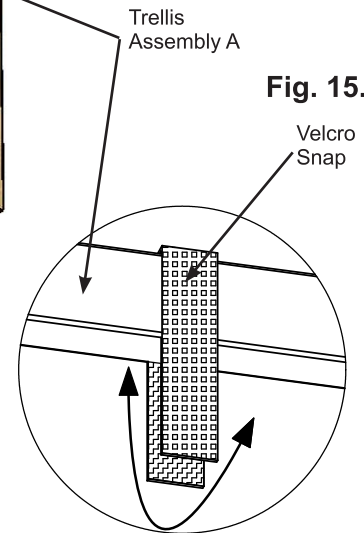

Fig. 15.6
C: Pull Charleston Canopy tight along one short side using female snaps as a guide, mark location then install the male snaps along both Beam End Assemblies and (486) Beam 57-1/2. Connect male and female snaps. On the other short side repeat this step. (fig. 15.6 and 15.7)